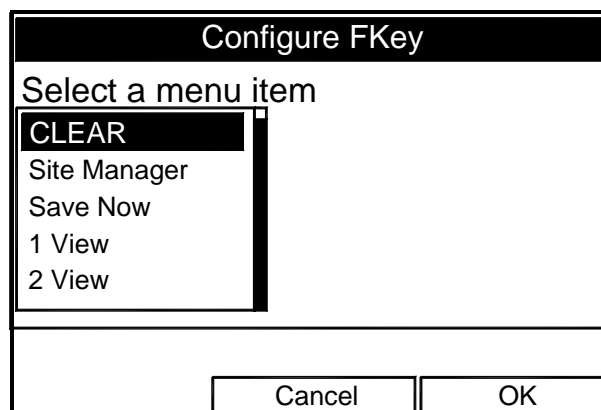

Figure 2-9: Configure FKKey Window
- Use the [▼] or [▲] arrow keys to move to the desired FKKey (1, 2 or 3) entry on the menu. Press [ENTER]. The Configure FKKey window opens, as shown in Figure 2-9 below.